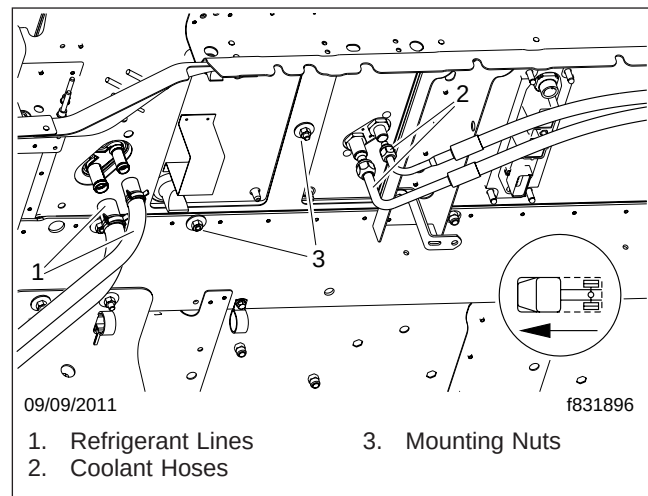

Fig. 5, Under-Cab Components (from July 2011)
16. Disconnect the coolant hoses from the heater core. See Fig. 5.